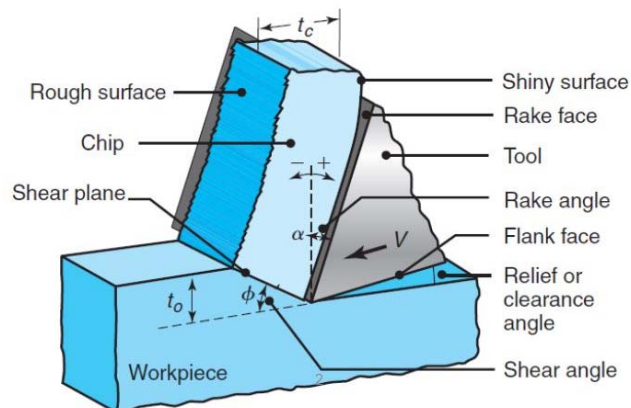

Figure Q6A: Merchant model of orthogonal cutting
- C. In the cutting process, referring to Figure Q6A, rake angle can be used to control the chip thickness. Discuss how controlling rake angle can play an important role on the cutting tool life.